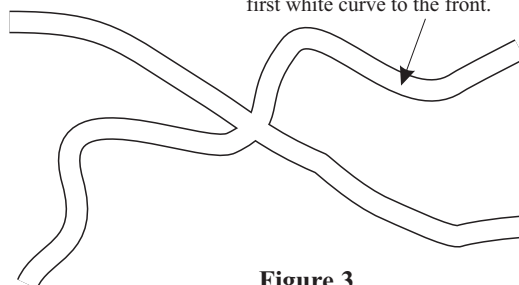

Figure 3.
4. To create an intersection, draw the new intersecting curve and repeat step 2 and 3. Now select the original white duplicate and bring to the front. See Figure 3.
I had my doubts about Figure 3 as I was sure it would end up with one lot of black lines intersecting the intersection, but of course, when you think about it, by bringing the first white to the front, it covers the lines from the second road.